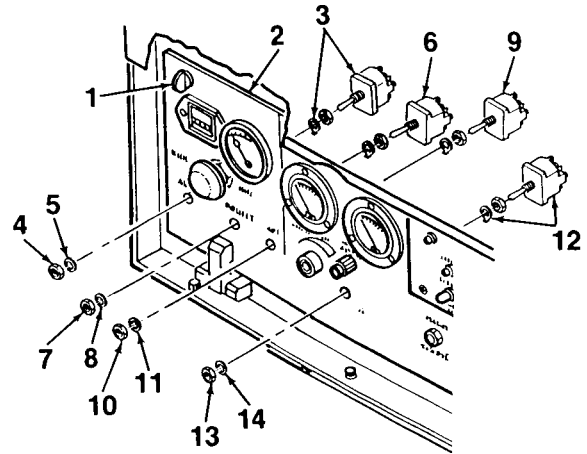

Figure 4-10. Operator Switches
1. Turn quarter-turn fasteners (1, Figure 4-10) to unlock and open control panel (2).
3. Remove AUX FUEL switch (3) from control panel (2) by removing attaching nut (4) and lockwasher (5).
4. Remove PREHEAT switch (6) from control panel (2) by removing attaching nut (7) and lockwasher (8).
5. Remove START / RUN / STOP switch (9) from control panel (2) by removing attaching nut (10) and lockwasher (11).
6. Remove CIRCUIT INTERRUPTER switch (12) from control panel (2) by removing attaching nut (13) and lockwasher (14).